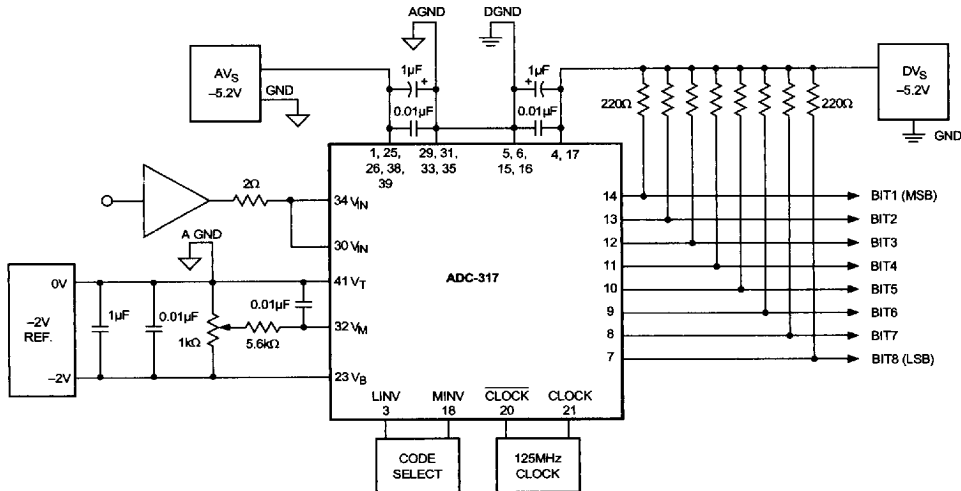

Figure 2. ADC-317 Typical Connection Drawing
5. Digital output bits 1 through 8 require 220 Ω pull-down resistors connected to the negative supply rail. Refer to Figure 2.